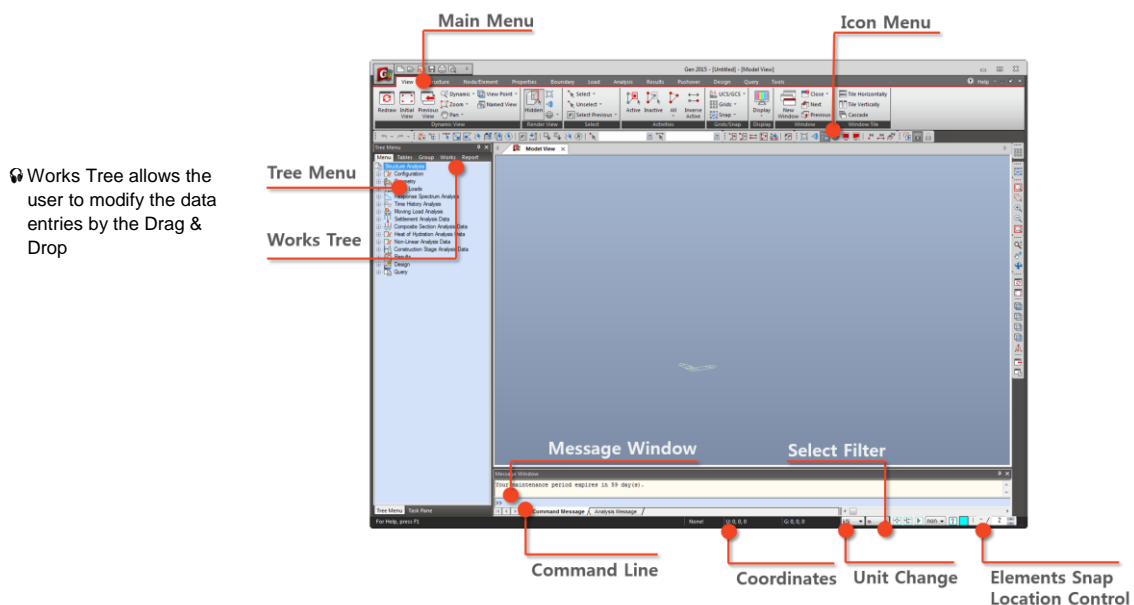

Figure 1.2 Default Window
The data input window and the unit display at the bottom of the screen (Status Bar – Fig.1.2–①) indicate the unit system in use and this reduces the possibility of errors. In this example, “ft” and “kip” units are used.
In **midas Gen**, the user can modify the placement of toolbars as desired. All toolbars (Fig. 1.2) should be selected already for use in the working window. The user can click on the checkboxes to view where each toolbar is located in the working window.
The coordinates of the nodes, grids and mouse cursor relative to GCS and UCS are displayed in the Status Bar (Fig.1.2-①).